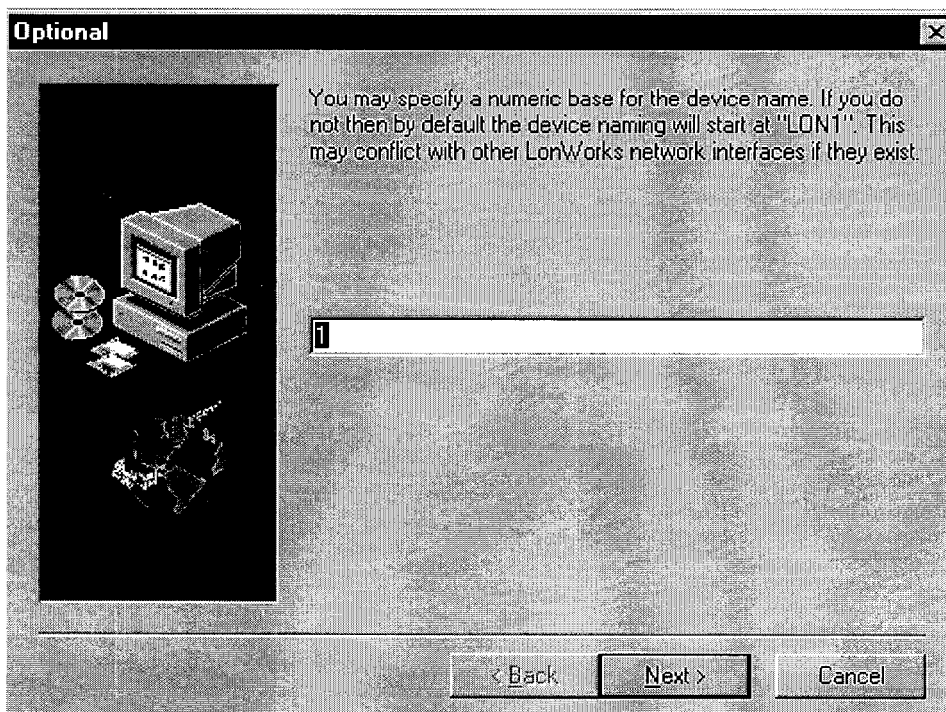

Figure 5.1 LONWORKS Device Naming Convention
8. The next screen presented is shown in figure 5.1. This will determine the LONWORKS naming convention used for the SLTA-10 adapter.